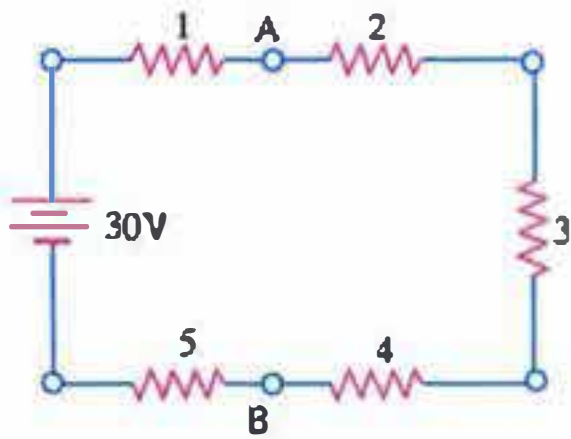

Fig. 2.37
3. In the series network of Fig. 2.37, compute